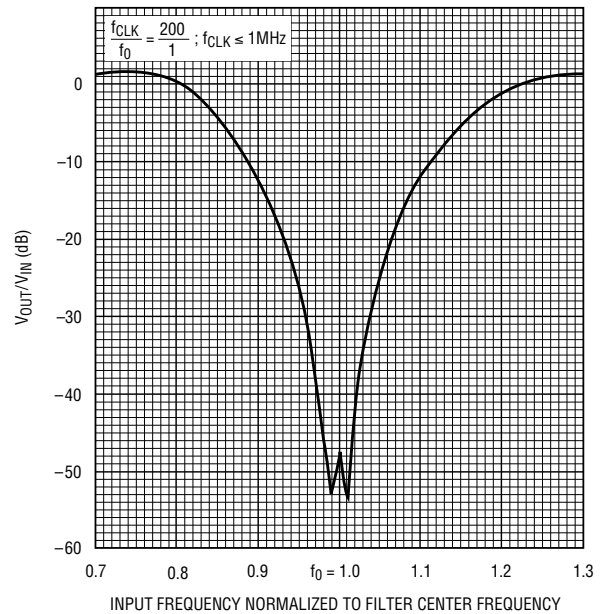

**Figure 21. The BP Filter of Figure 20, When Swept From a 2kHz to 20kHz Center Frequency.**
In mode 3 (Figure 11), a single resistor ratio ( $R_2/R_4$ ) can tune the center frequency below or above the  $f_{CLK}/100$  (or  $f_{CLK}/50$ ) ratio. Mode 3 is a state variable configuration since it provides a highpass, bandpass, lowpass output through progressive integration; notches are obtained by summing the highpass and lowpass outputs (mode 3a, Figure 12). The notch frequency can be tuned below or above the center frequency through the resistor ratio ( $R_h/R_i$ ). Because of this, modes 3 and 3a are the most versatile and useful modes for cascading second order sections to obtain high order elliptic filters. Figure 20 shows the two sections of an LTC1060 connected in mode 3a to obtain a clock tunable 4th order sharp elliptic bandpass filter. The first notch is created by summing directly the HP and LP outputs of the first section into the inverting input of the second section op amp. The individual Q's are 29.6 and the filter maintains its shape and performance up to 20kHz center frequency (Figure 21). For this circuit an external op amp is required to obtain the 2nd notch. The dynamics of Figure 20 are excellent be-
**Figure 20. Combining Mode 3 with Mode 3a to Make The 4th Order BP Filter of Figure 21 with Improved Dynamics. The Gain at Each Output Node is  $\leq 0$ dB for all Input Frequencies.**